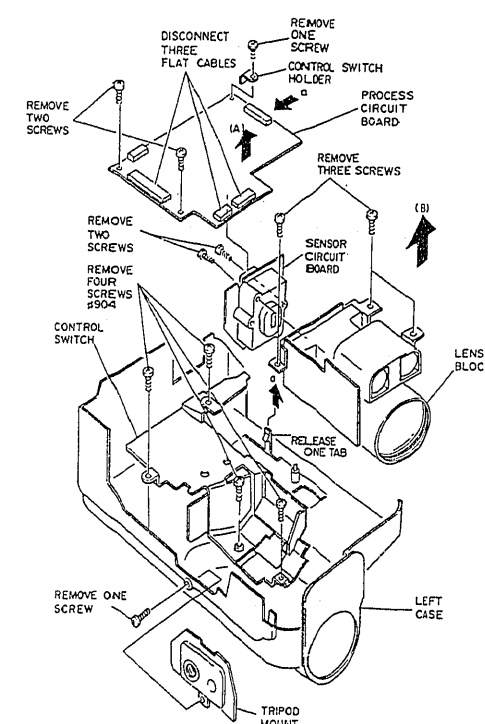
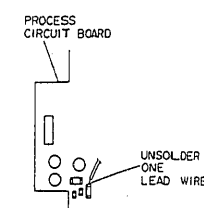

Fig. 2-6
Fig. 2-7
- 1) Remove one (1) screw holding the tripod mount. (See Fig. 2-6)
- 2) Disconnect three (3) flat cables (CN1203, CN1204, CN1207) on the process circuit board.
- 3) Remove two (2) screws holding the process circuit board.
- 4) Remove one (1) screw holding the process circuit board and control switch holder.
- 5) Release one (1) tab and remove the process circuit board in the direction of arrow (A) separating from the sensor circuit board. (The process and sensor circuit boards are connected via board-in type connector.)
- 6) Unsolder one (1) lead wire on the process circuit board (between the process and sensor circuit boards). (See Fig. 2-7)
- 8) Remove three (3) screws and remove the lens block from the left case in the direction of arrow (B). (See Fig. 2-6)
- 9) Remove two (2) screws holding the sensor circuit board.
(3) Control Switch, Left Case
- 10) Remove four (4) screws and remove the control switch from the left case. (See Fig. 2-6)